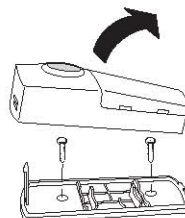

Fig.4
7. You can now use the screws to screw the transmitting switch baseplate in the required position (Fig. 4) or simply use the accompanying adhesive pad. Ensure that the nameplate is at the top if you want to install the push-button vertically (see arrow on the back of the baseplate)!